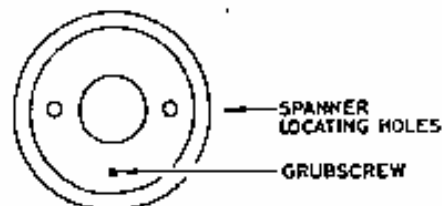

FIGURE 2
- 2 Ensure that both HI connectors are tight and locked into position with the adjacent grubcrew, as shown in Figure 2.